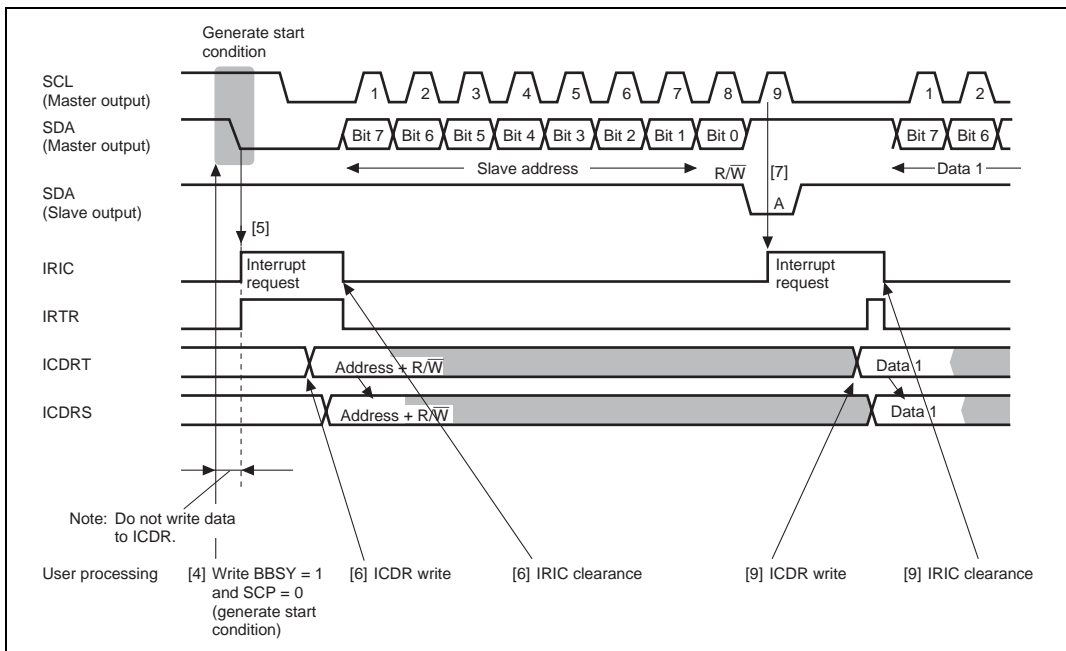

Figure 16.8 Example of Master Transmit Mode Operation Timing (MLS = WAIT = 0)
- [6] After the start condition is detected, write the data (slave address + R/\overline{W}) to ICDR. With the I²C bus format (when the FS bit in SAR or the FSX bit in SARX is 0), the first frame data following the start condition indicates the 7-bit slave address and transmit/receive direction (R/\overline{W}). Next, clear the IRIC flag to 0 to indicate the end of the transfer. Continue successively writing to ICDR and clearing the IRIC flag to ensure that processing of other interrupts does not intervene. If the time required to transmit one byte of data elapses by the time the IRIC flag is cleared, it will not be possible to determine the end of the transmission. The master device sequentially sends the transmit clock and the data written to ICDR using the timing shown in figure 16.8. The selected slave device (i.e., the slave device with the matching slave address) drives SDA low at the 9th transmit clock pulse and returns an acknowledge signal.